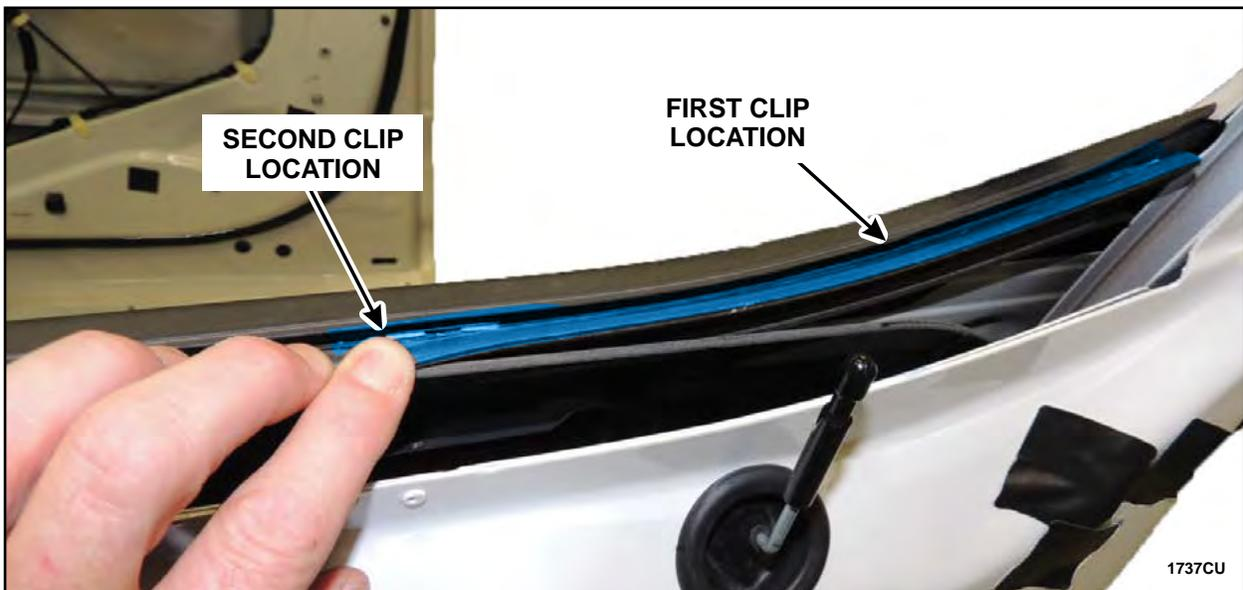

FIGURE 66
8. Clean the highlighted area of the outer belt moulding with isopropyl alcohol and a clean shop cloth. See Figure 66.